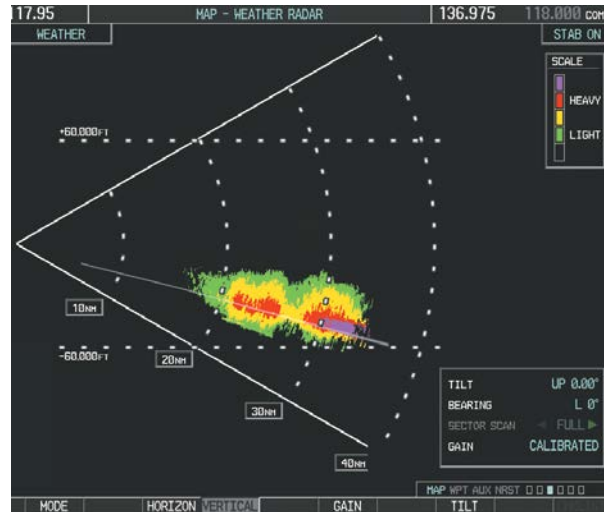

Figure 6-121 Vertical Scan Display
- 4) Press the **VERTICAL** Softkey. A vertical scan of the selected area is displayed (Figure 6-121).